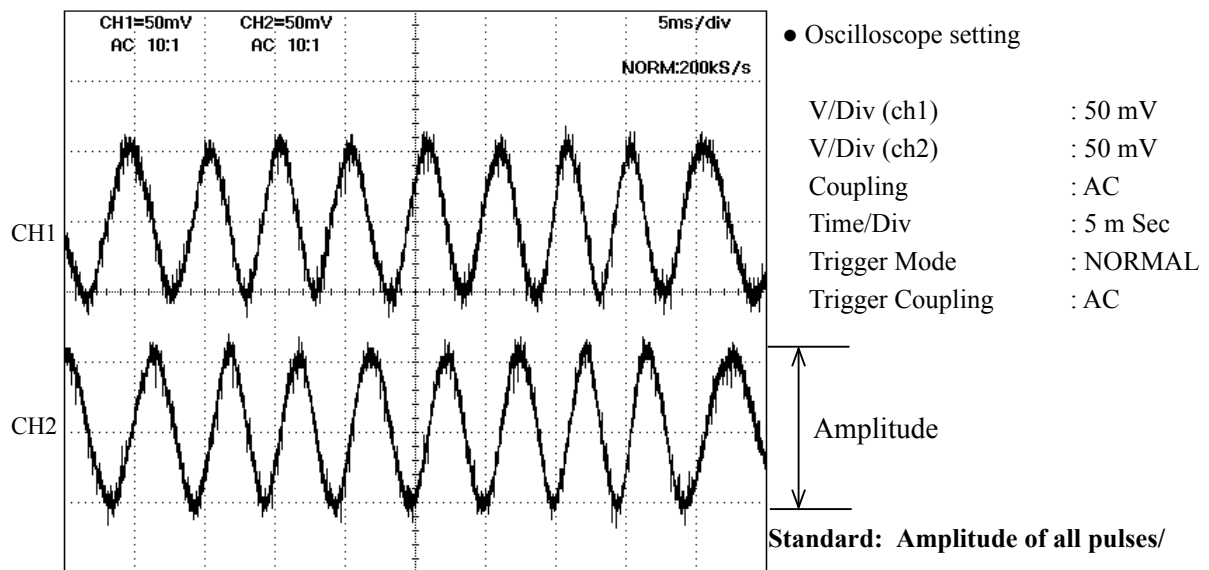

Fig.1
- ③ In case large waveform-noise (as shown in Fig. 1) is detected, use the FILTER function.